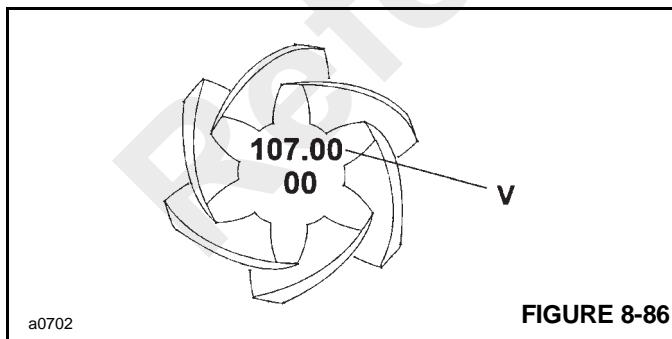

FIGURE 8-86
- Subtract the ( $V$  - requested conical distance) value stamped on the pinion head (Figure 8-86) from the measured ( $X$ ) value.